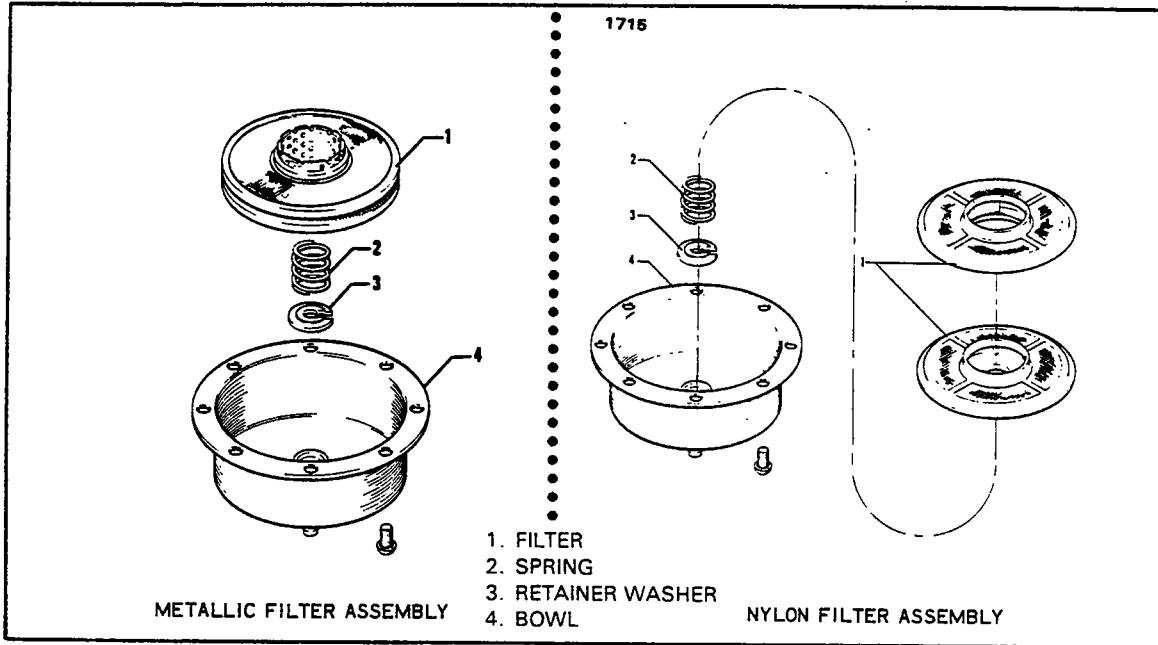

Figure 9-9. Fuel Filter (PA - 28-235)
- Remove filter disc assembly from center stem by compressing filter retainer spring and removing filter retainer washer. (Refer to Figure 9-9.)